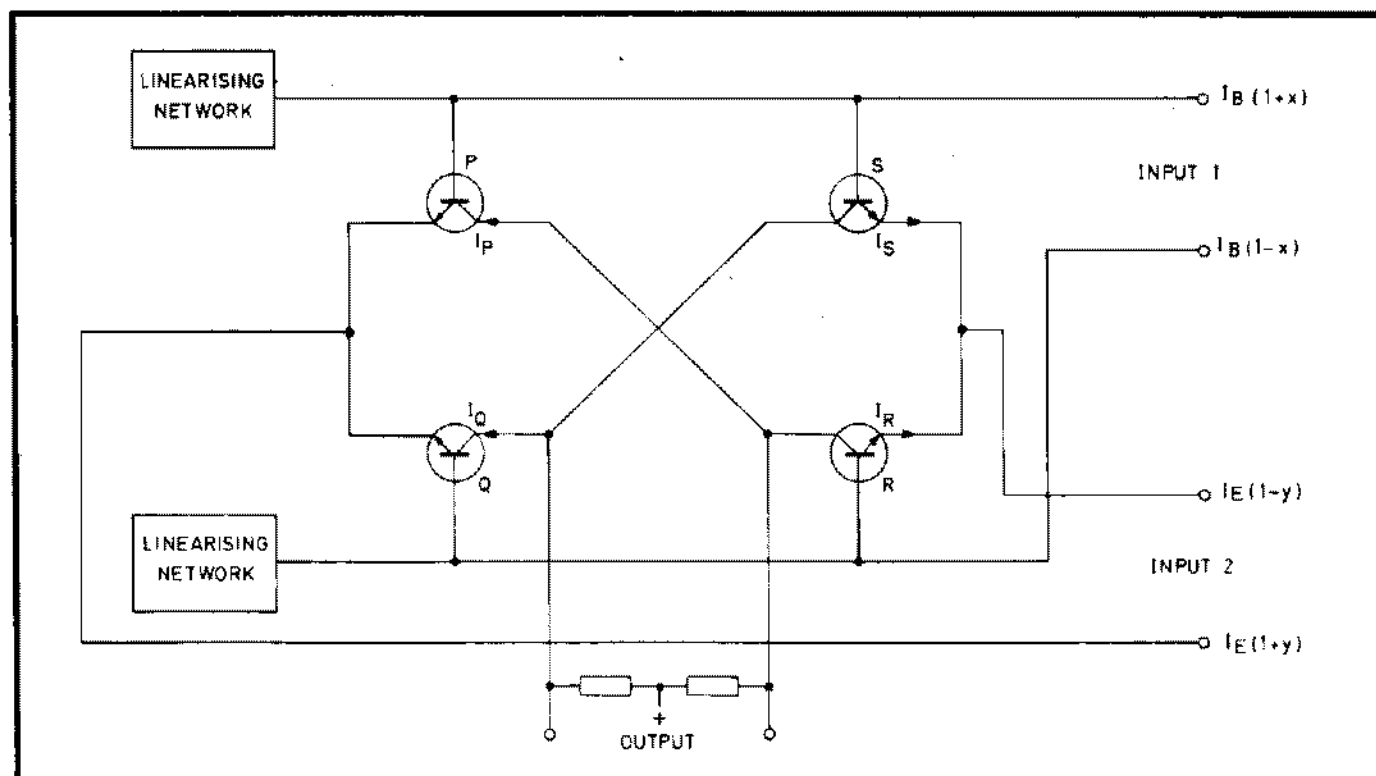

Fig. 5.10 Multiplier Operation
- 5.A.2.1 A schematic circuit of the multiplier is given in Fig. 5.10. The inputs are the differential current inputs at 1 and 2. It is a property of this circuit that the ratios  $I_P/I_Q$  and  $I_S/I_R$  are equal and are equal to the ratio of the currents in the linearising networks. (Proof of this property is unnecessary for the purposes of this manual).